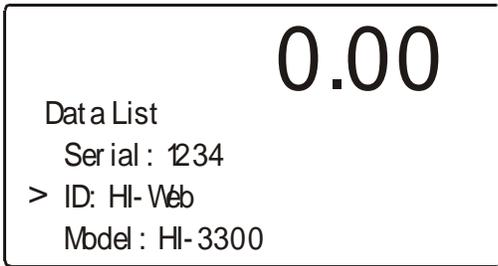

FIG. 3-18 TEST DATA DISPLAY/INSTRUMENT ID - MODEL NUMBER - S/N
- Step 2. Press the Enter button. The Device Data List Display appears with the cursor in front of Instrument ID. (See Fig. 3-18)